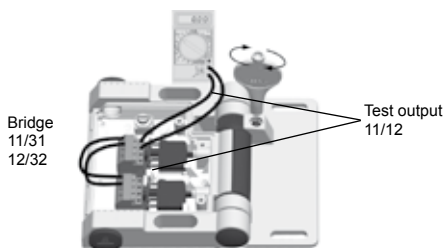

Fig. 5
3. Wire both NC contacts parallel, connect terminal 11 with 31 and terminal 12 with 32 (Fig. 5).
4. Connect the continuity tester to the terminals 11/12 of the NC contacts or use the test handles at the terminals (Fig. 5).